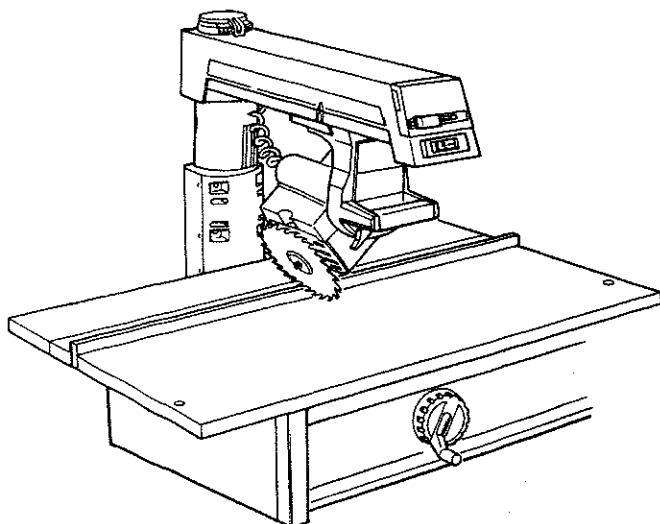

Fig. 59
13. Unlock the *bevel lock* and move the *motor* to the 45° bevel position. (Figure 59)